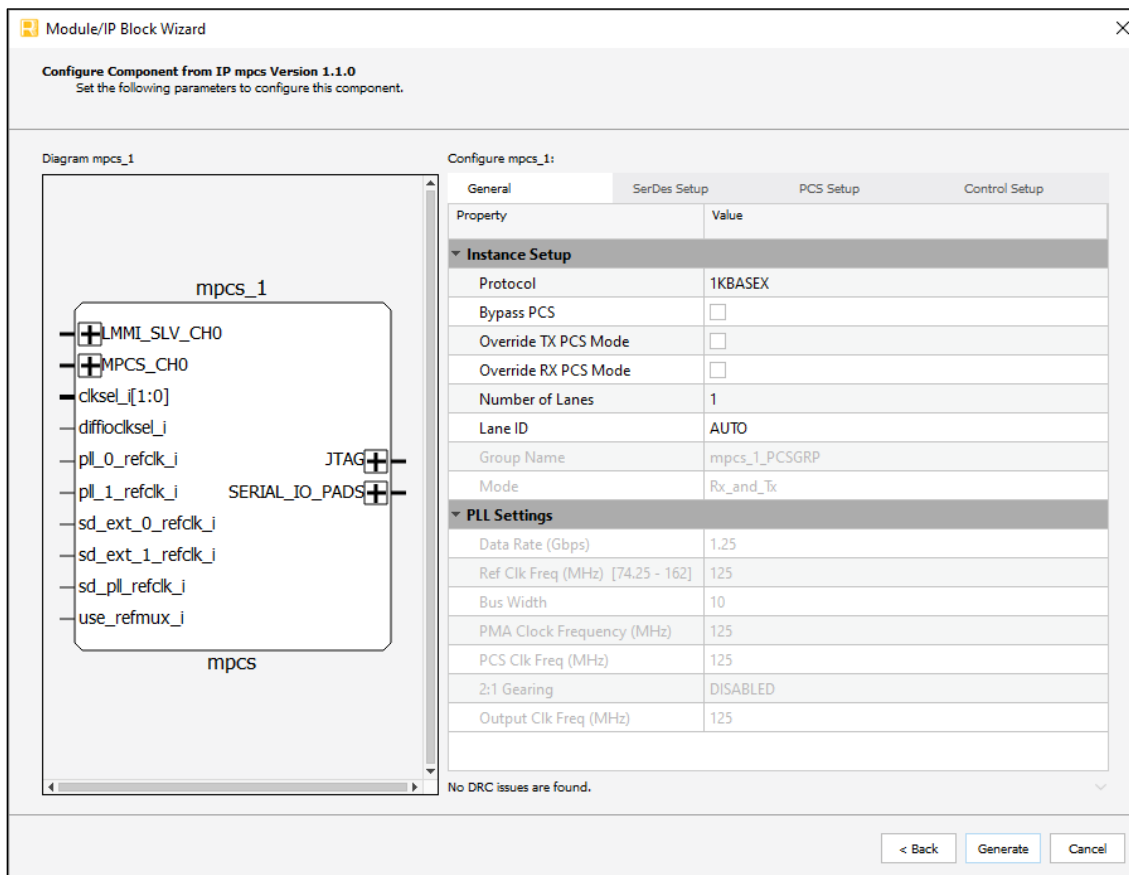

Figure 7.2. Configure User Interface of MPCS Module
- In the module dialog box of the **Module/IP Block Wizard** window, customize the selected MPCS module using the drop-down menus and check boxes. As a sample configuration, see Figure 7.2. For configuration options, see the Module Parameter Description section.